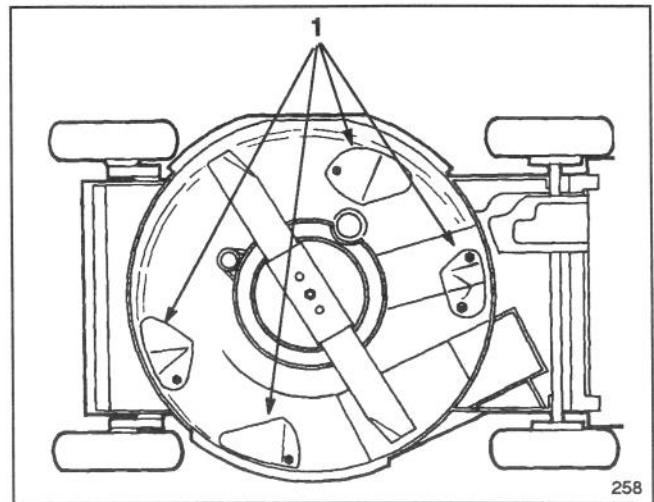

Figure 29
Keep underside of mower housing clean. Be especially careful to keep kickers on underside of mower housing free of debris (Fig. 29).
2. Tip mower on its right side (Fig. 29). Avoid rotating blade because starting problems may result.